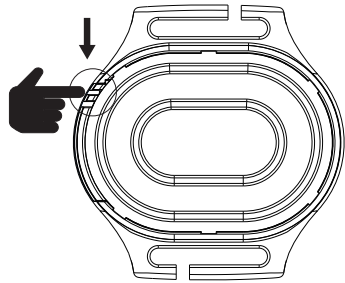
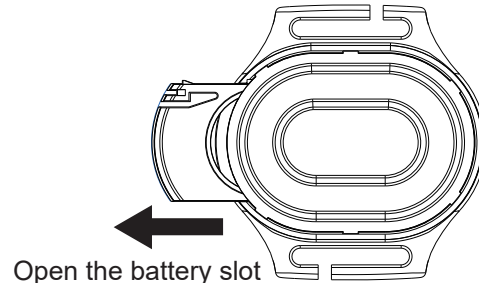

Figure 1
Figure 2
2. If the remote control needs to replace the battery, press the lock button as shown in Figure 1, and then open the battery slot as shown in Figure 2 to replace the battery. It is recommended to use CR2025 batteries.